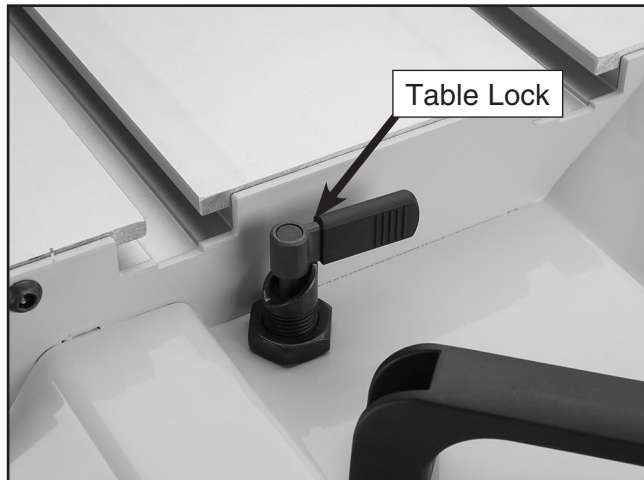

Figure 64. Sliding table lock.
2. Lock the sliding table into a stationary position (see **Figure 64**).